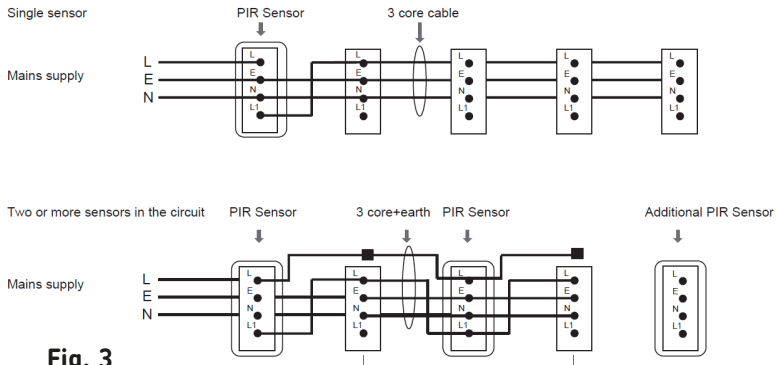

Fig. 3
- Ensuring correct polarity is observed, carefully wire as shown in Fig. 3